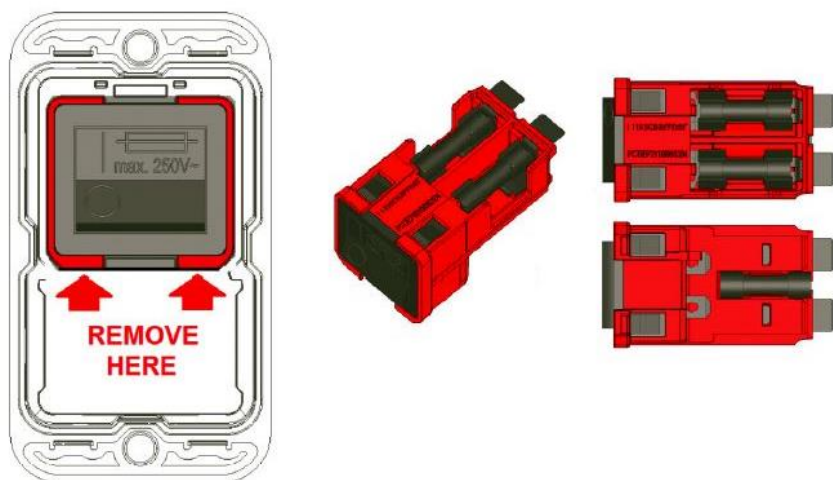

Figure 23
- 2.) Place the end of a 1/8" flat head screwdriver into one of the holes in bottom of the fuse holder. Pry the fuse holder out of the power entry module. See Figure 23.